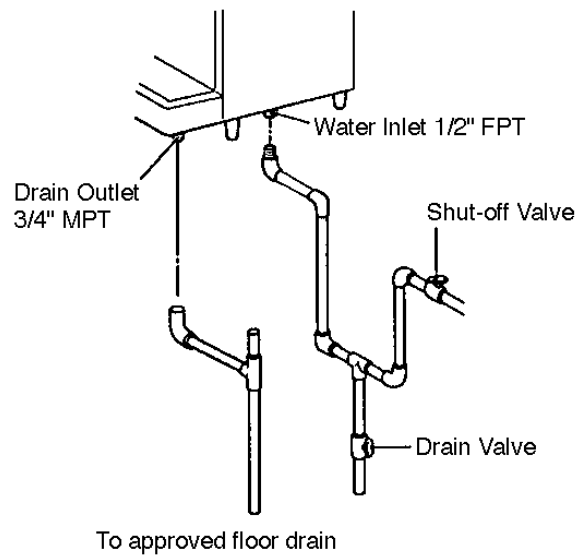

Fig. 3
5. WATER SUPPLY AND DRAIN CONNECTIONS - See Fig. 3